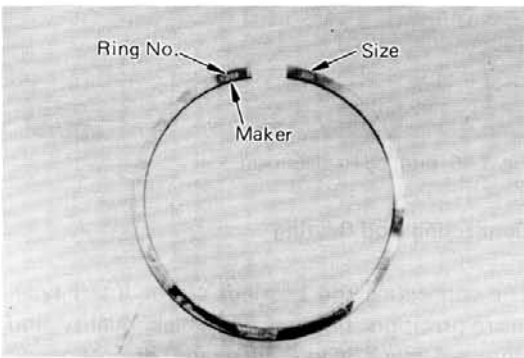

Fig. 1-40 Piston Ring Marks
1. Check the rings for wear and other defects. If the pistons are replaced, the rings should be replaced at the same time. The ring size must be selected to correspond the size of the piston. The rings are provided with the marks as shown in figure 1-40, but the standard size piston rings do not have the STD mark. Face these marks upward upon installation.